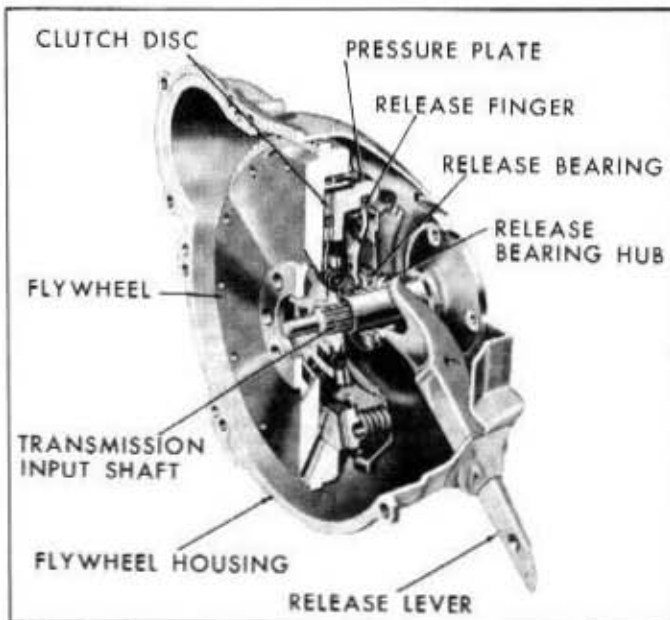

Fig. 7C-1—Clutch—(60C-3201)
1. To check pedal assist spring tension, measure the distance between the inside radius of the spring hook and the front face of the link. Refer to figure 7C-2. This distance should be 1-3/16 inch. Turn the nut on the retainer to obtain proper pedal assist.
2. Measure the total travel of the pedal. See figure 7C-3. If the total travel is not within 6"-6 1/2", move the pedal bumper and bracket (figure 7C-2) up or down as necessary. Always check and adjust total travel before checking free travel.
3. To check pedal free travel, depress the pedal slowly until the release fingers contact the release bearing, and note the reading on the rule. The difference between this reading and the reading when the pedal is released is the free travel measurement. If free travel is not within 7/8"-1 1/8", loosen the pedal-to-equalizer rod nuts (figure 7C-2) and rotate the equalizer bar as required. Securely tighten both equalizer rod nuts.